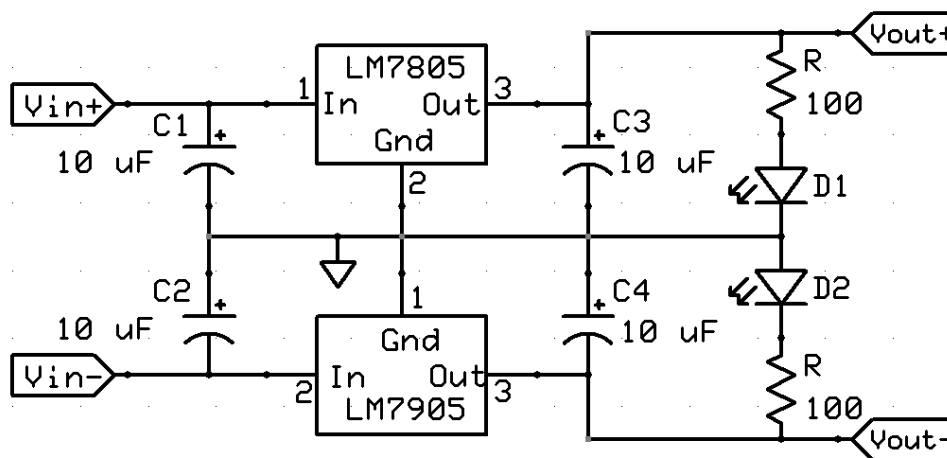

Figure 18. LEDs as loads.
4. Next add LEDs as shown in Fig. 18 below. This circuit is running the LEDs very hot so that the regulators show some ripple voltage. Because of this, do not leave the circuit on for more than a few minutes at a time. Use either yellow or green LEDs.